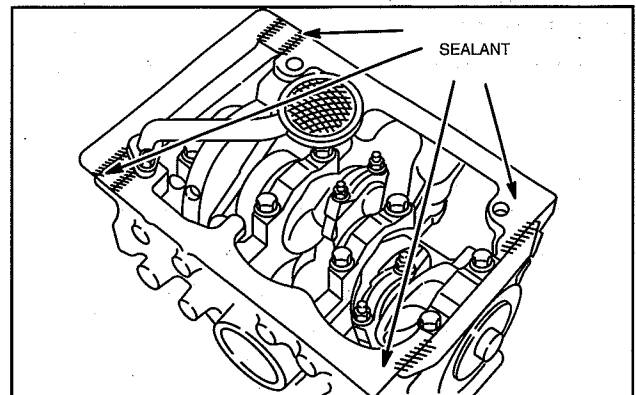

Fig. 23 – Installing Oil Pan
- a. Apply a small bead of Permatex® No. 2 or similar sealant to crankcase areas shown, Fig. 23.